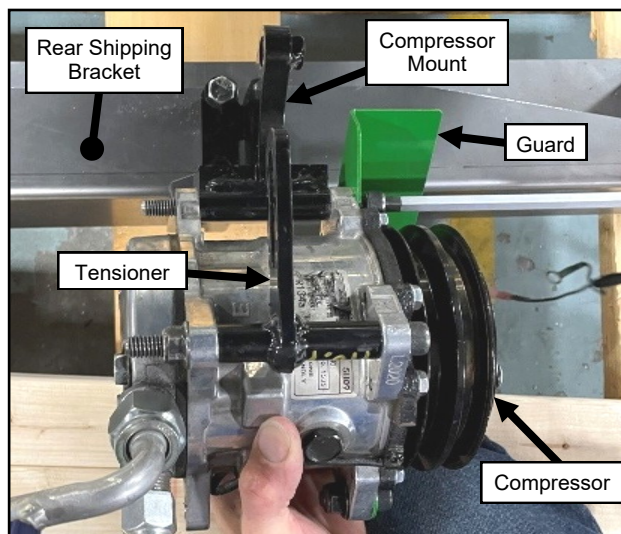

Fig. 1.31 (Remove Compressor Mount)
- 1.31** Remove compressor (with guard) and tensioner from the compressor mount (keep 3/8" hardware with compressor). Support the compressor using a bungee cord or rope. Do not ever use the hoses to support the compressor or damage may occur. Next, remove compressor mount from rear shipping bracket. See Figure 1.31.